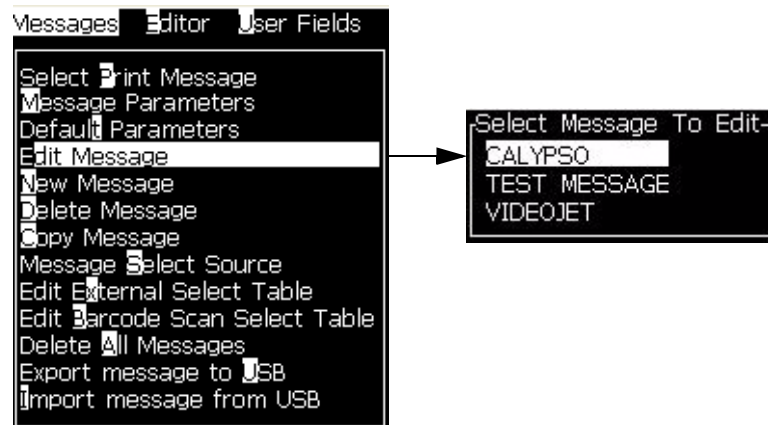

Figure 5-51: Edit Message Option
- 2 Select *Edit Message*. The *Select Message To Edit* dialog box appears (see Figure 5-51).